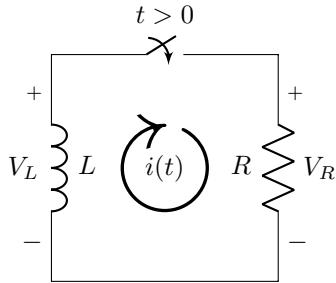

Figure 4.2: RL Circuit
B. For the circuit in Figure 4.2, given $i(0) = I$: